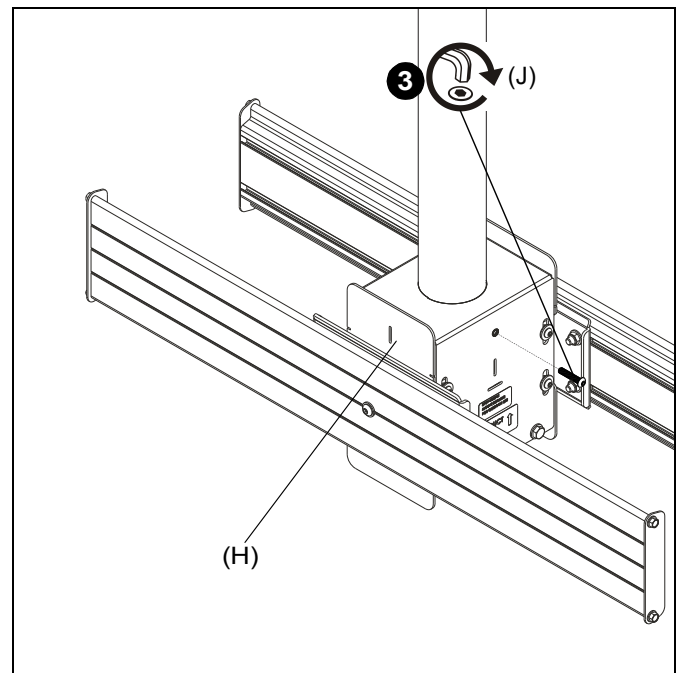

Figure 3
3. Install 1/4-20 x 1 1/4" button head cap screw (J) into mount assembly (H) to prevent column from rattling. (See Figure 3)